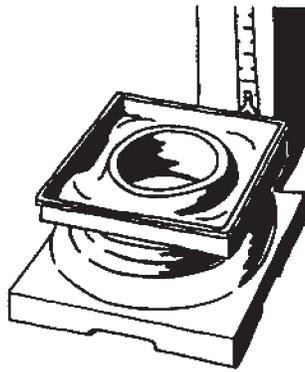
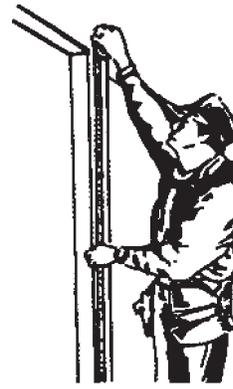

Figure 1
Figure 2
1. Measure the entire height of the overhang opening from the soffit to the deck. Subtract the space taken up by the base and plinth assembly and the capital assembly. A good technique is to set the cap and base on the deck (Fig. 1) and then measure up to the soffit or beam (Fig. 2). Be especially careful to account for the height of ornamental capitals.